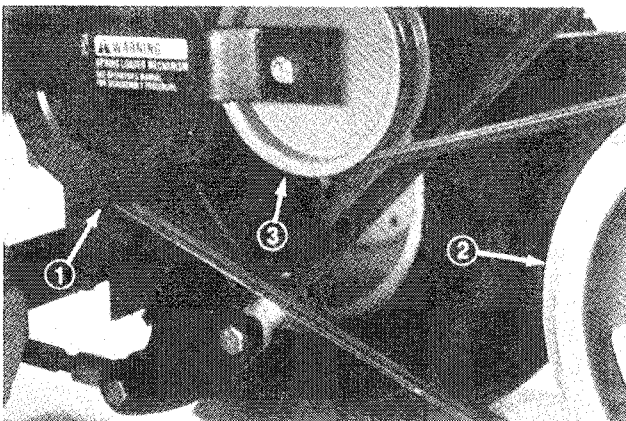

Figure 5
1. Route V-belt around jackshaft pulley and gear box pulley (Fig. 5).
2. Raise idler pulley and position over upper portion of belt (Fig. 5).